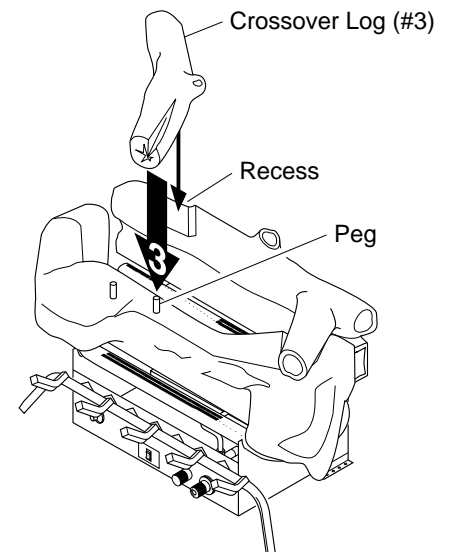

Figure 27 - Installing Crossover Log (#3)
3. Place cross-over log (#3) onto the pin (right) on middle log (#1) and into the recess of the back log (#2) (see Figure 27).